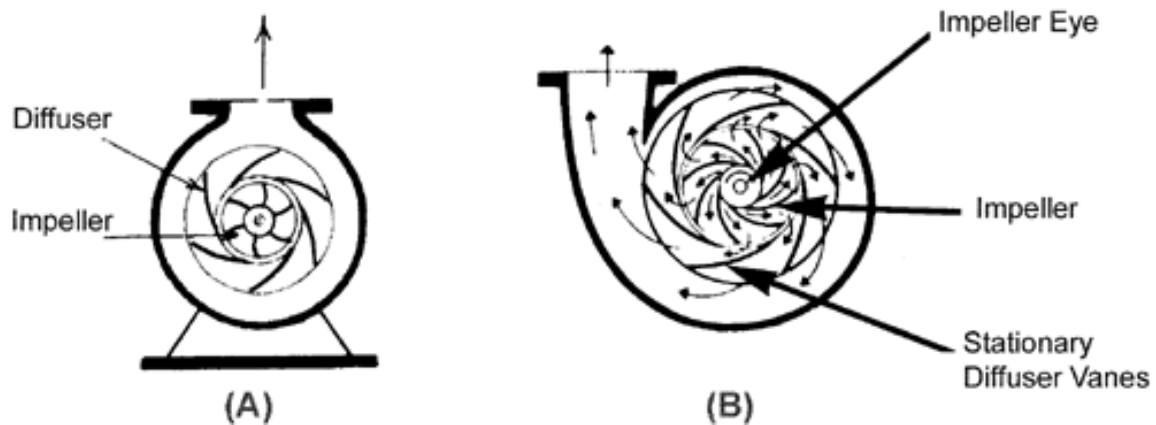

Figure 14
In the diffuser centrifugal pump, the high velocity liquid leaving the impeller passes between vanes in a stationary diffuser ring. These vanes are shaped in such a way that the channels between them gradually increase in area, Fig. 14. As the liquid passes through these channels, its velocity energy is converted into pressure energy. The liquid is then discharged either into a concentric casing (A) or into a volute casing (B) where further velocity-pressure conversion takes place. Since the flow of liquid in volute and diffuser pumps is away from the centre, these pumps are often classified as radial flow centrifugal pumps.